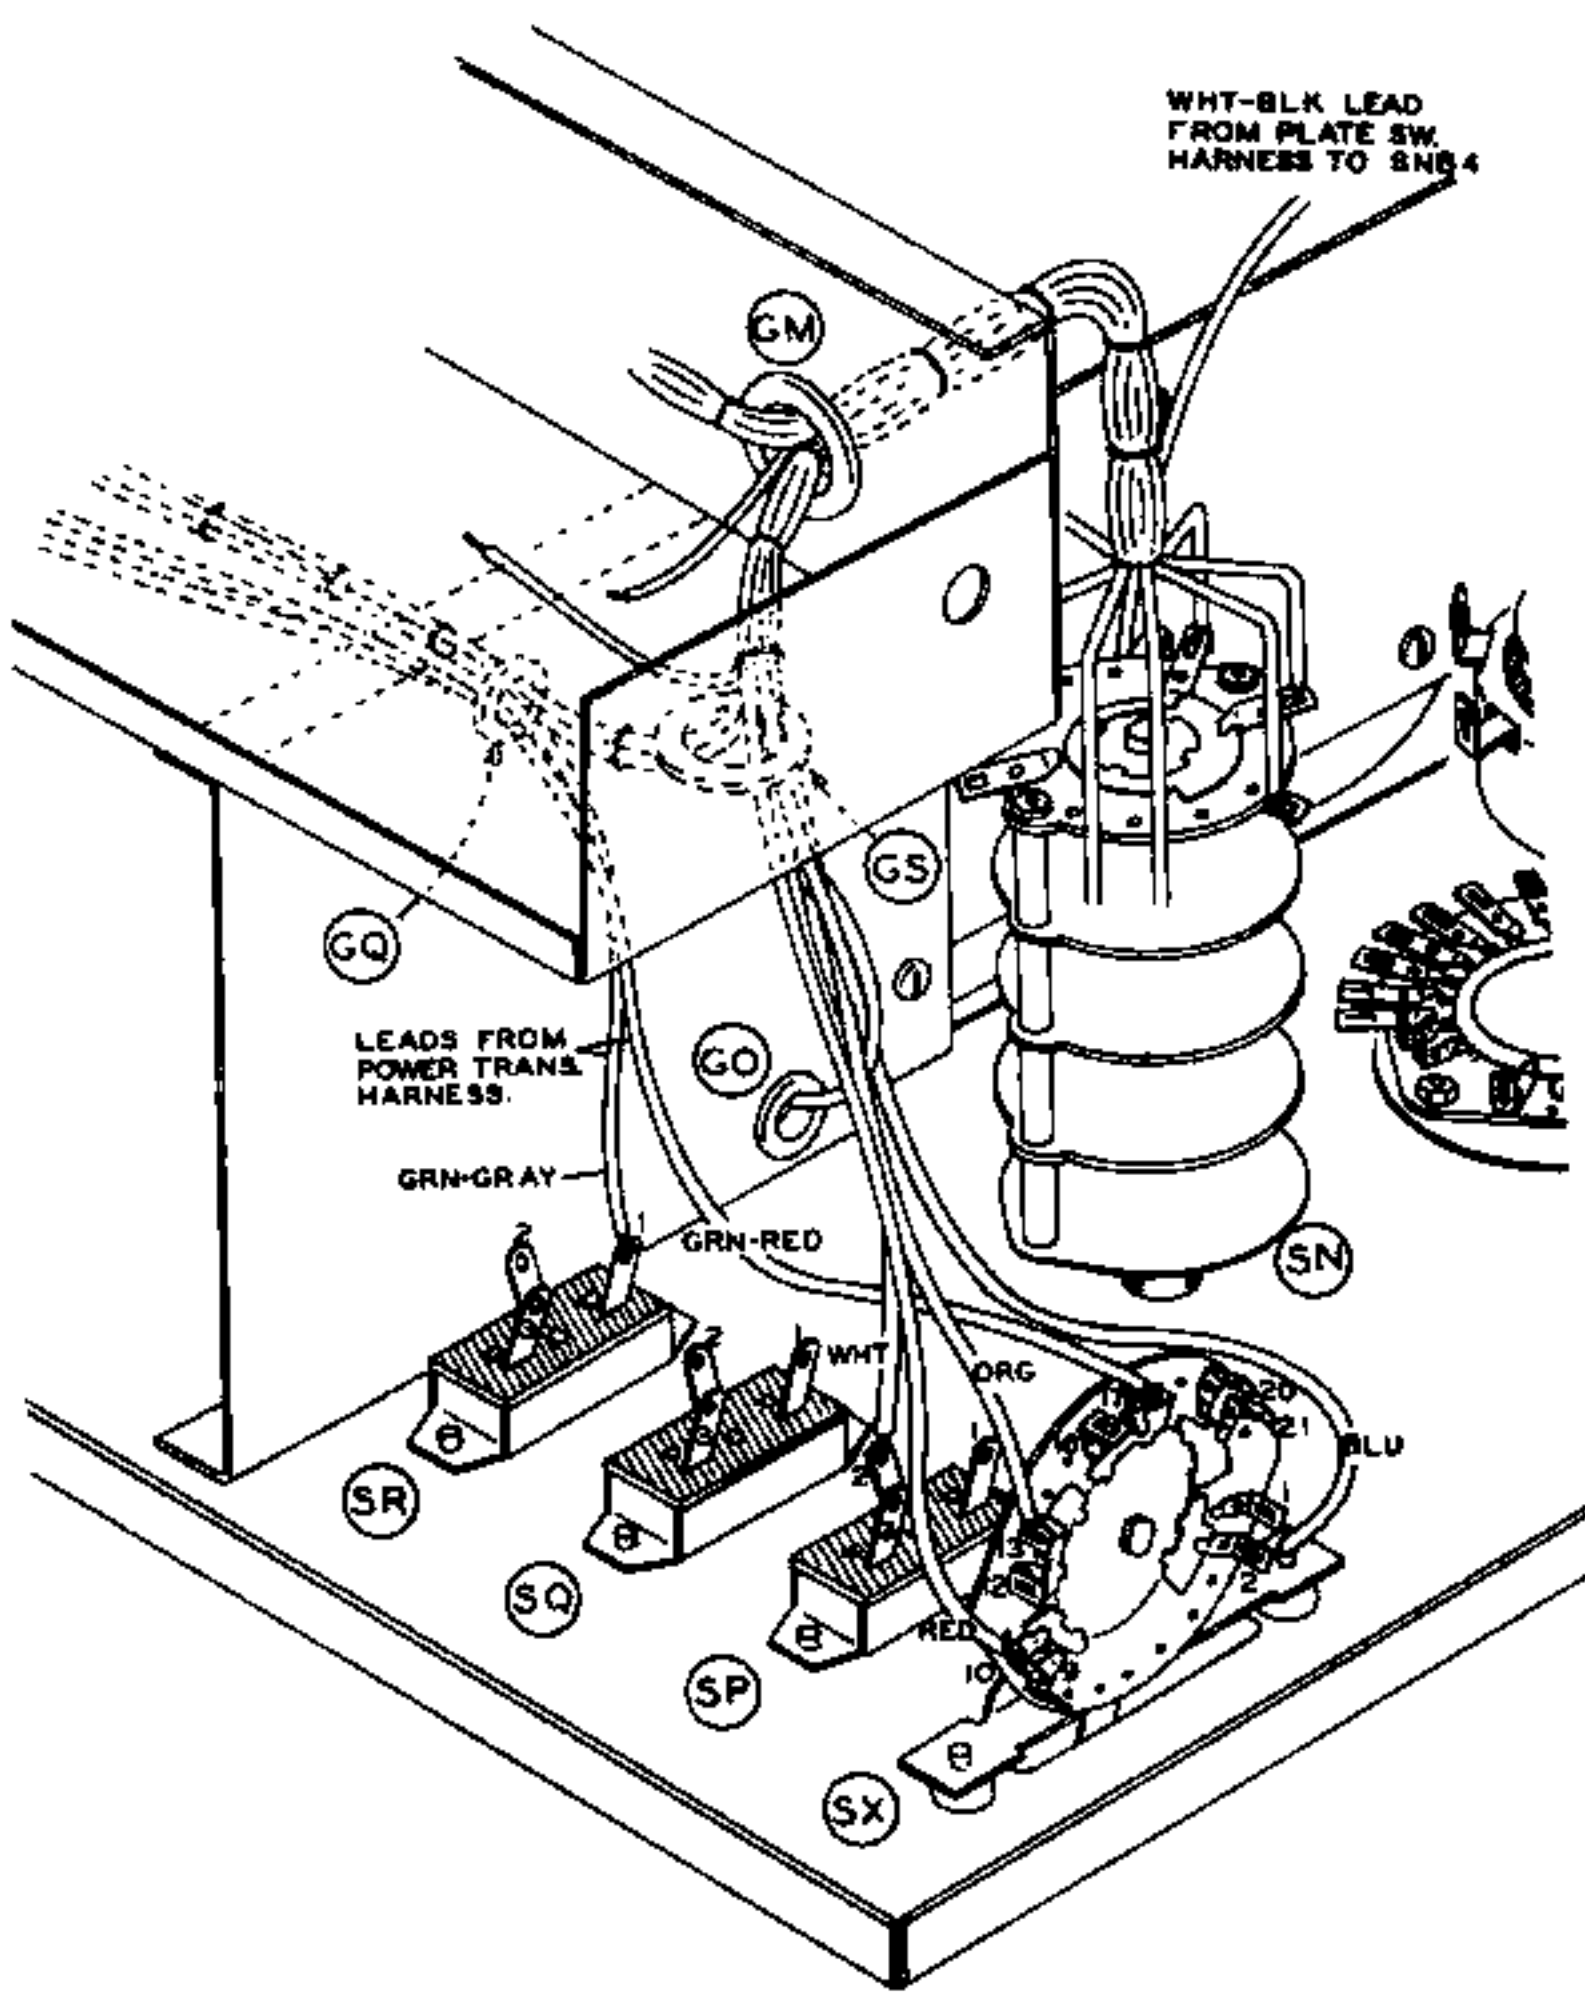

Figure 49
- ( ) Bend the cable harness at right angles to assume the position shown in Figure 49.
Pass all remaining leads through grommet GS. See Figure 49.
- ( ) Pass the green-red and green-gray leads through GP and GQ. See Figure 49.